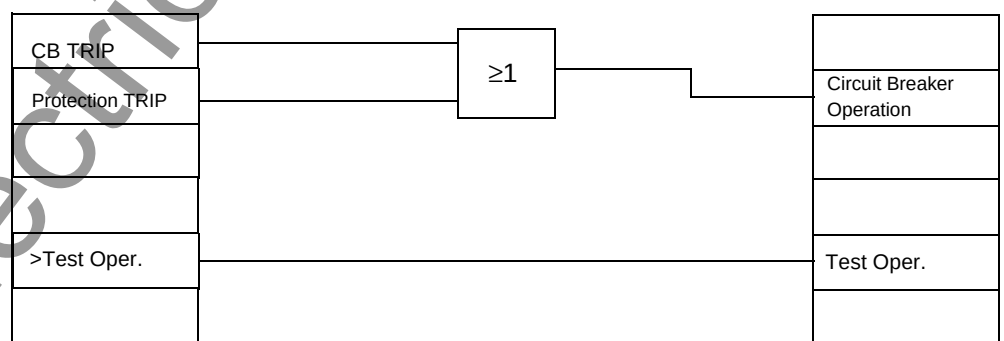

Figure 5-44 Additional logic as an example for a PLC_1 event-driven logic condition
By using slow PLC processing, an additional, event-driven logic condition may be constructed which delivers indications regarding switch-gear operating status. These indications may be passed externally via LEDs or relay contacts, or used as input signals for further logical links. In the example (see Figure 5-44), the output information indication from the circuit breaker interlocking logic (CB TRIP) and a joint indication from all protective element trip signals (Protection TRIP) are linked to a new "Circuit Breaker Operation" message. Furthermore, the single point indication (SP) **Test Oper.**, which may be coupled via a binary input, is linked with an internal reusable "Test oper.:" message.